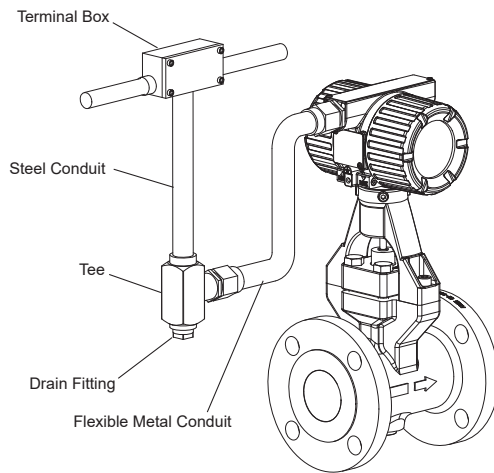

Figure 4.10 Wiring Example (Integral Flowmeter/Remote Sensor)
- (3) Use of a flexible metal conduit and a duct for wiring for waterproofing or for protecting electrical wires from damage is recommended (see Figures 4.10 and 4.11).